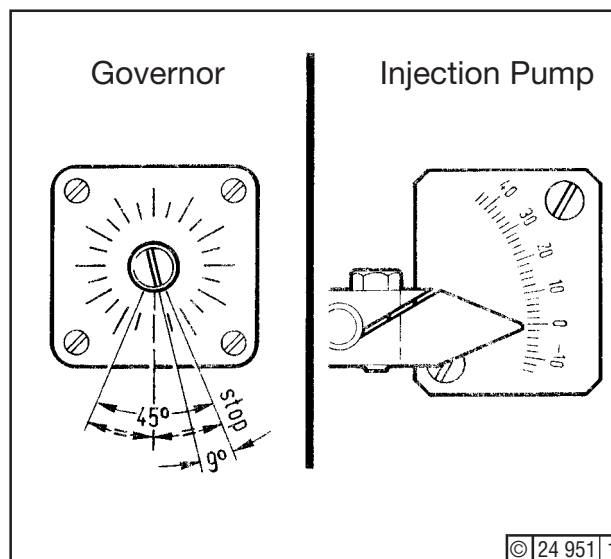

Fig. 17
11. Adjust linkage at points C8 (*) or C10 (**) - Fig. 17 - so as to obtain the settings scheduled in table below. Then tighten all locknuts.
12. Set stop screw A13 so that load indicator on injection pump points to graduation (14) - Fig. 17.